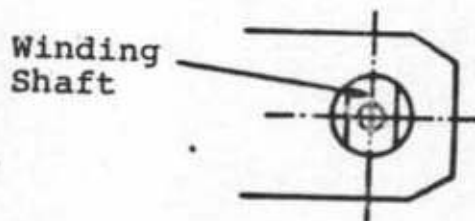

Fig. 2-18
5. The mesh should be so that the flat section of the end of the winding shaft is perpendicular to the centerline of the camera body. (Fig. 2-18)